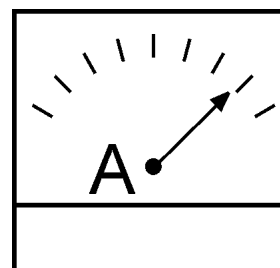

Figure 55. Ammeter (Load)
15. Observe the generator's ammeter (Figure 55) and verify it reads the anticipated amount of current with respect to the load. The ammeter will only display a current reading if the load is in use.